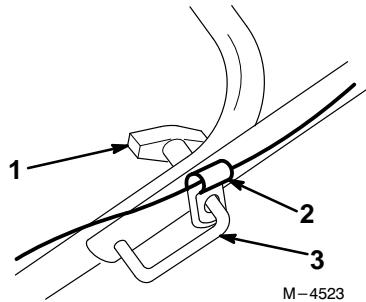

Figure 6
Note: Ensure that the cable guide is in the position as shown in Figure 6.
2. Loosen the knobs and pull out the handle locks until the upper handle rotates freely (Fig. 6).